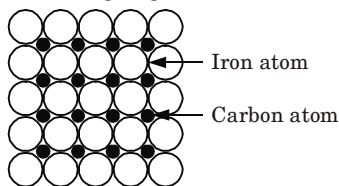

Fig. 3.2.3. Interstitial solid solutions.
2. Carbon in iron is the example of such a type of solution which is the basis of steel hardening (Fig. 3.2.3).